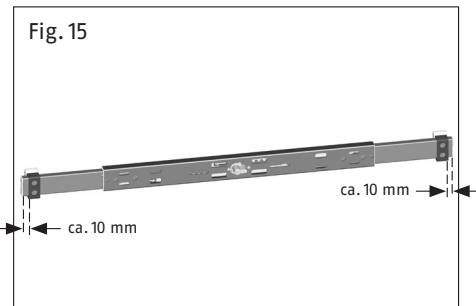
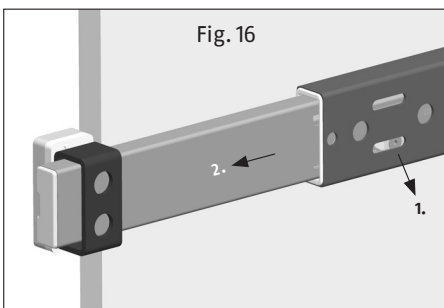

Fig. 15
Fig. 16
- The bolts should project approx. 10 mm (Fig. 15) from the lock casing.
- Even out the folding thicknesses with plastic washers (Fig. 16).
Close the door bar and remove the key. Attach the lock case to the door bar (Fig. 15). If there is no suitable attachment point, loosen the door bar adjusting screw (1.) according to Fig. 16 and move the door bar casing until such time as a suitable mounting point is reached. Mark the lock case position.
Close the door bar, put the lock cases with screw-on plate and plastic underlays underneath according to the rebate height, hold onto the marked fitting position, align vertically in the centre of the door bar and mark out. Close the door bar (Fig. 15).